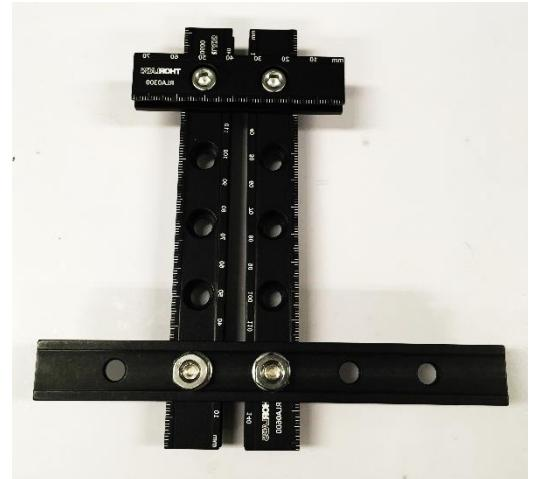

Figure 8 Head-fixing assembly dovetail rails connected together
- Adjust the rails so they are all perpendicular to each other, forming a rectangle, rather than a general parallelogram, and tighten the screws/nuts. A vise can be useful to hold the rails in position while you tighten the screws. See Figure 8 for the results of this step.